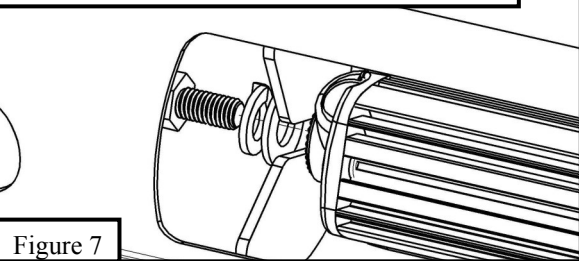

Figure 7
9. **For part number 32-3905L:** Refer to **Page 4** for wiring instructions. Loosen M8 hardware to adjust the LED light in bull bar or to remove it in order to replace it. See **Figure 7** for location of M8 hardware.